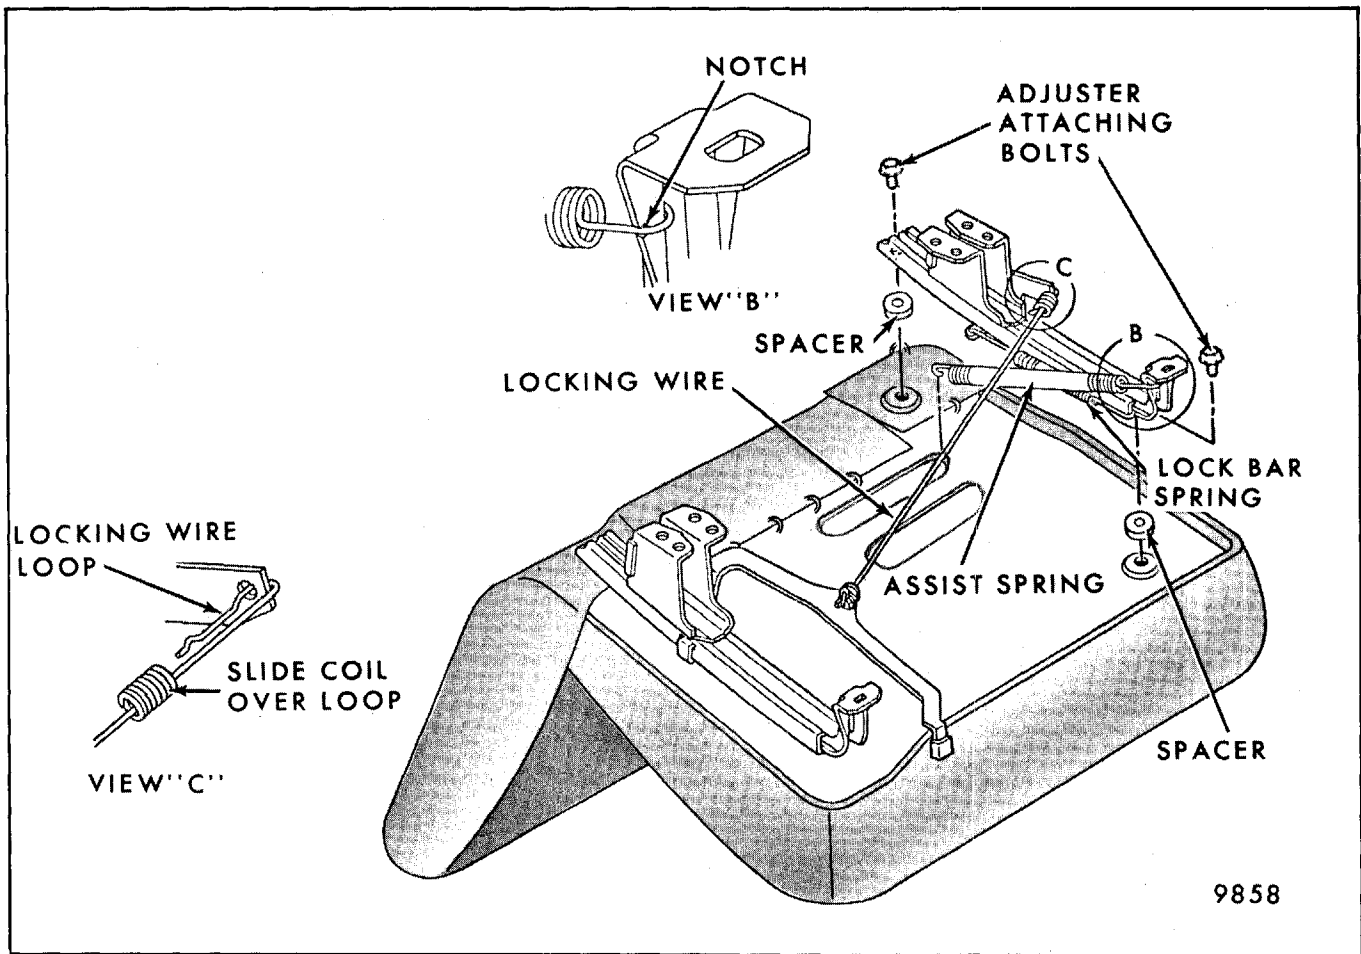

Fig. 9-48 - A, B and C Style Manual Seat Adjusters - 45-55 Seat
- Figure 9-48 - A, B and C Style Manual Seat Adjusters - 45-55 Seat